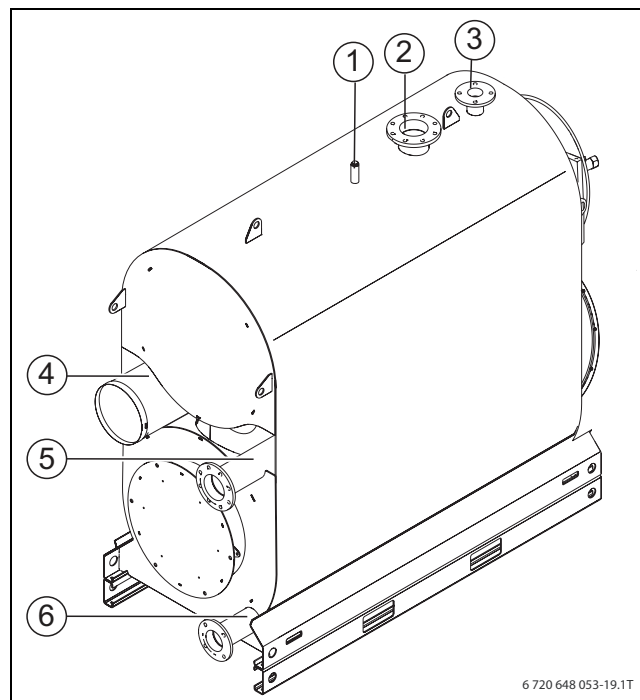

Fig. 12 Boiler connections
- ▶ Connect the safety valve to the pressure release valve connection (VSL) (→ Fig. 12, [3], page 17).